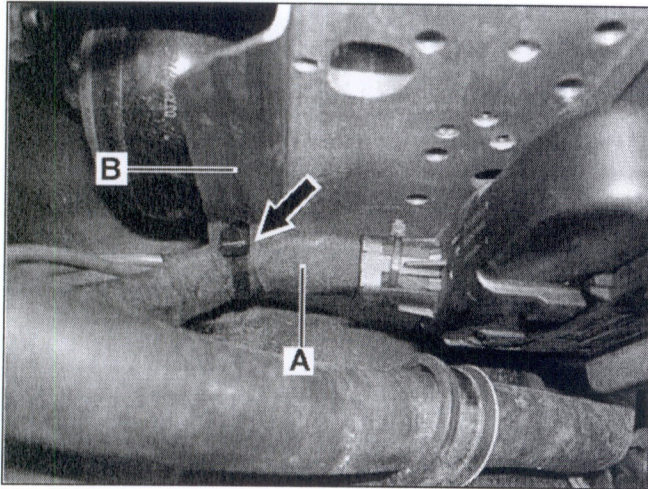
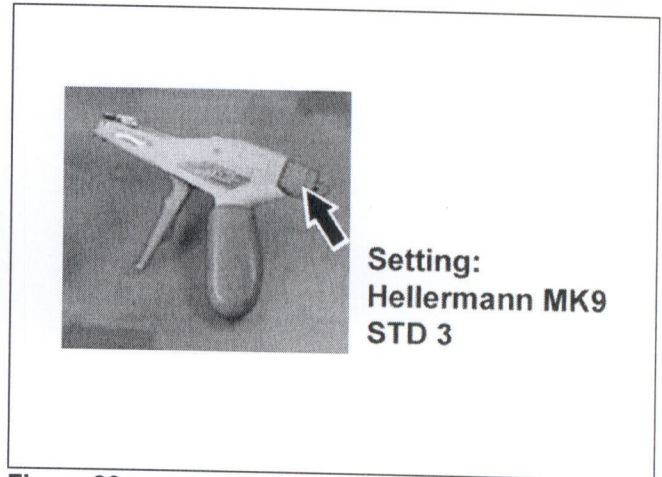

Figure 25
Figure 26
- Ensure cable tie (arrow, Figure 25) was properly affixed using cable tie pliers (Hellermann MK9; special tool number W 352 589 02 37 00); use **setting 3 on cable tie pliers**, as shown in Figure 26.
- Ensure wiring harness (A, Figure 25) touches the bracket (B, Figure 25) and is mounted there free of tension.